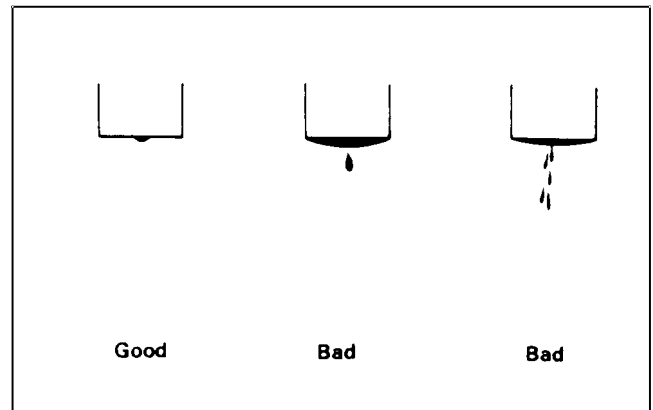

Figure 18
Nozzle Tests (Fig. 18, 19)
6. While pressure is being applied, watch for an accumulation of fuel at the tip of the nozzle (Fig. 18). A small amount of fuel may be present due to a previous chattering test - this would be normal. If the fuel accumulates and drips down during the test (about ten seconds) the nozzle assembly is defective and must be replaced.